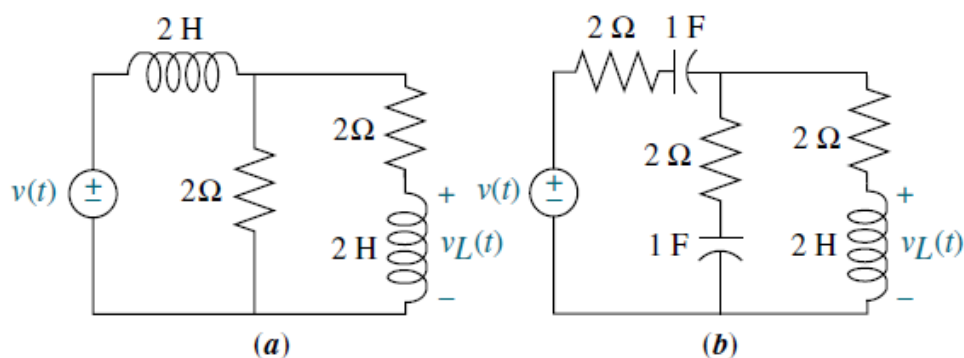

FIGURE P2.4
17. Find the transfer function, $G(s) = V_L(s)/V(s)$, for each network shown in Figure P2.4. [Section: 2.4]